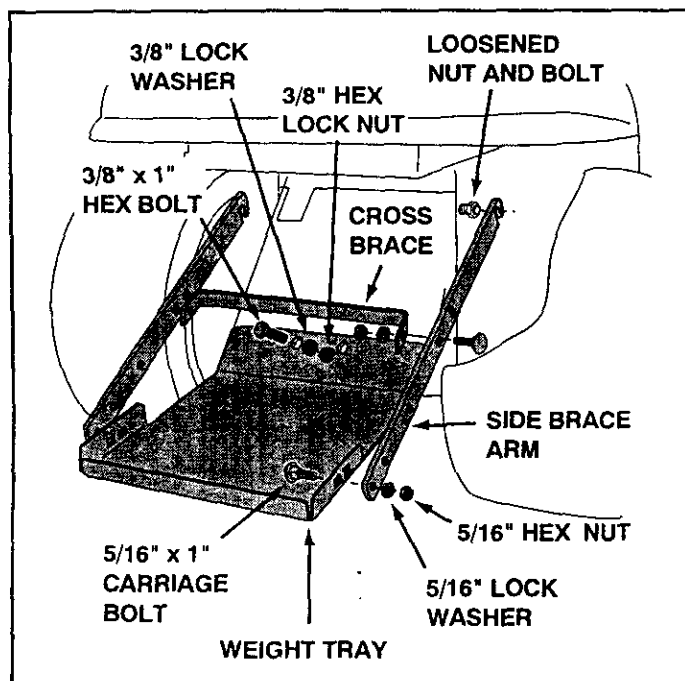

FIGURE 19 VIEWED FROM REAR
- Loosen the two hex bolts and nuts which fasten the top of the tractor drawbar to the rear of the tractor frame. See figure 19.
- Assemble the notched end of the side brace arms down onto both loosened bolts. **Do not tighten yet.** See figure 19.
- Fasten the weight tray to the drawbar using two 3/8" x 1" hex bolts, 3/8" lock washers and 3/8" hex lock nuts. **Do not tighten yet.** See figure 19.
- Fasten the weight tray to the side brace arms using two 5/16" x 1" carriage bolts, 5/16" lock washers and 5/16" hex nuts. **Do not tighten yet.** See figure 19.
- Fasten the weight tray cross brace to the side brace arms using two 5/16" x 1" carriage bolts, 5/16" lock washers and 5/16" hex nuts. **Tighten all loose bolts at this time.** See figure 19.